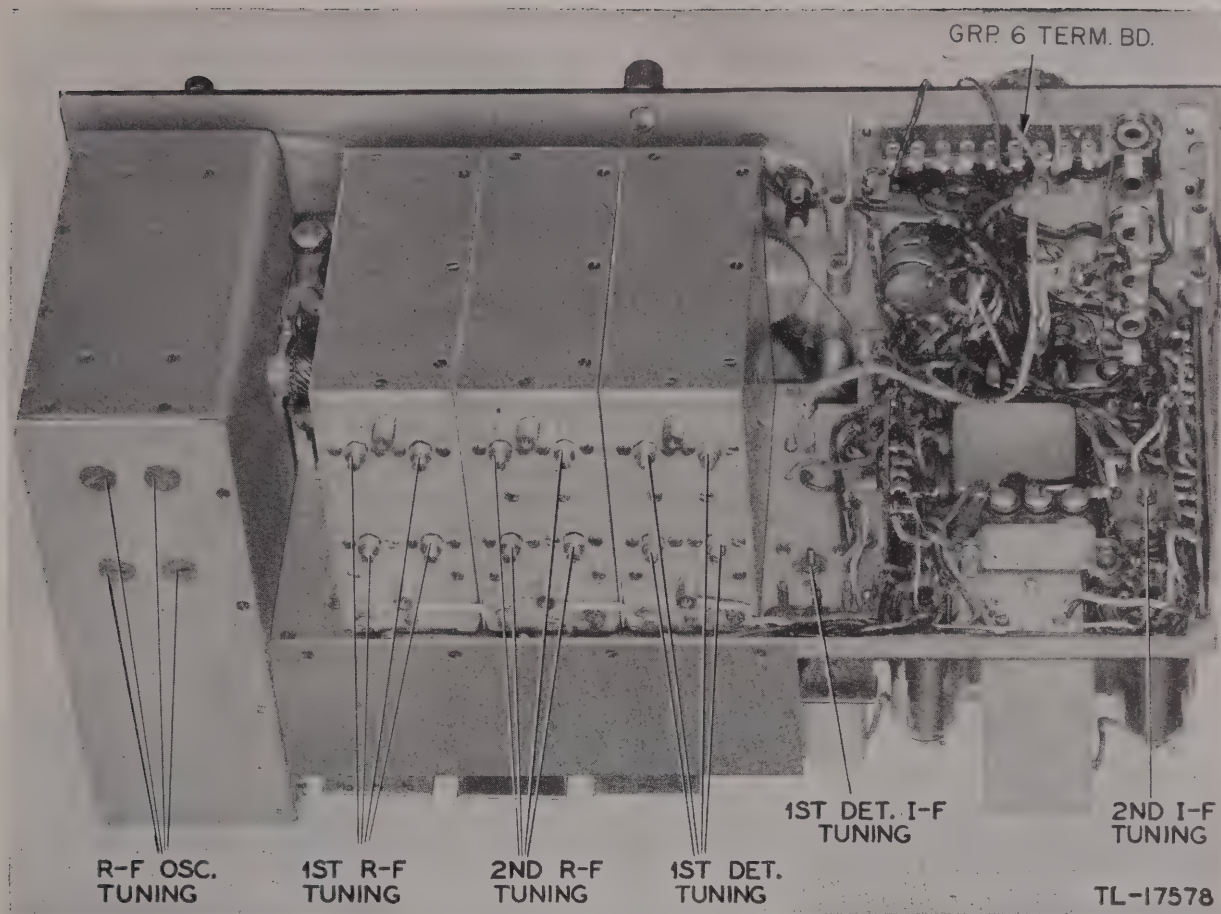

Figure 12. Receiver chassis, bottom view.
(1) The resistance between terminals D and T, the two large pins of socket SO1, should be infinite, except in receivers containing an oscillator compartment heater. In these receivers, the resistance reading should be 4 ohms. A resistance reading, in receivers which do not contain oscillator compartment heaters, indicates a short circuit in the filament or dial lamp wiring which must be corrected before power is applied to the receiver.
(2) The resistance between terminal No. 7 of the group-6 terminal board (fig. 12) in the receiver and chassis should be approximately 19,000 ohms (+10 percent). If the resistance is zero, check capacitors C10, C19, C50, C53, C56, C57, C63, C70, and the high-voltage wiring. If the resistance is low, check for a shorted bypass capacitor in one of the plate or screen grid circuits, a short in the wiring of one of the plate or screen-grid circuits, or leakage in one of the capacitors mentioned above. If the resistance is higher than normal, it indicates an open screen voltage dropping resistor. To prevent possible damage to the dynamotor, correct all abnormal conditions before applying high voltage to the receiver.